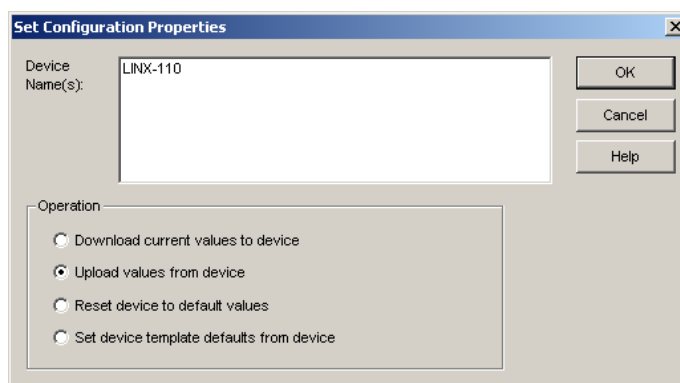

Figure 113: Set Configuration Properties in LonMaker TE.
2. This opens the dialog shown in Figure 113.